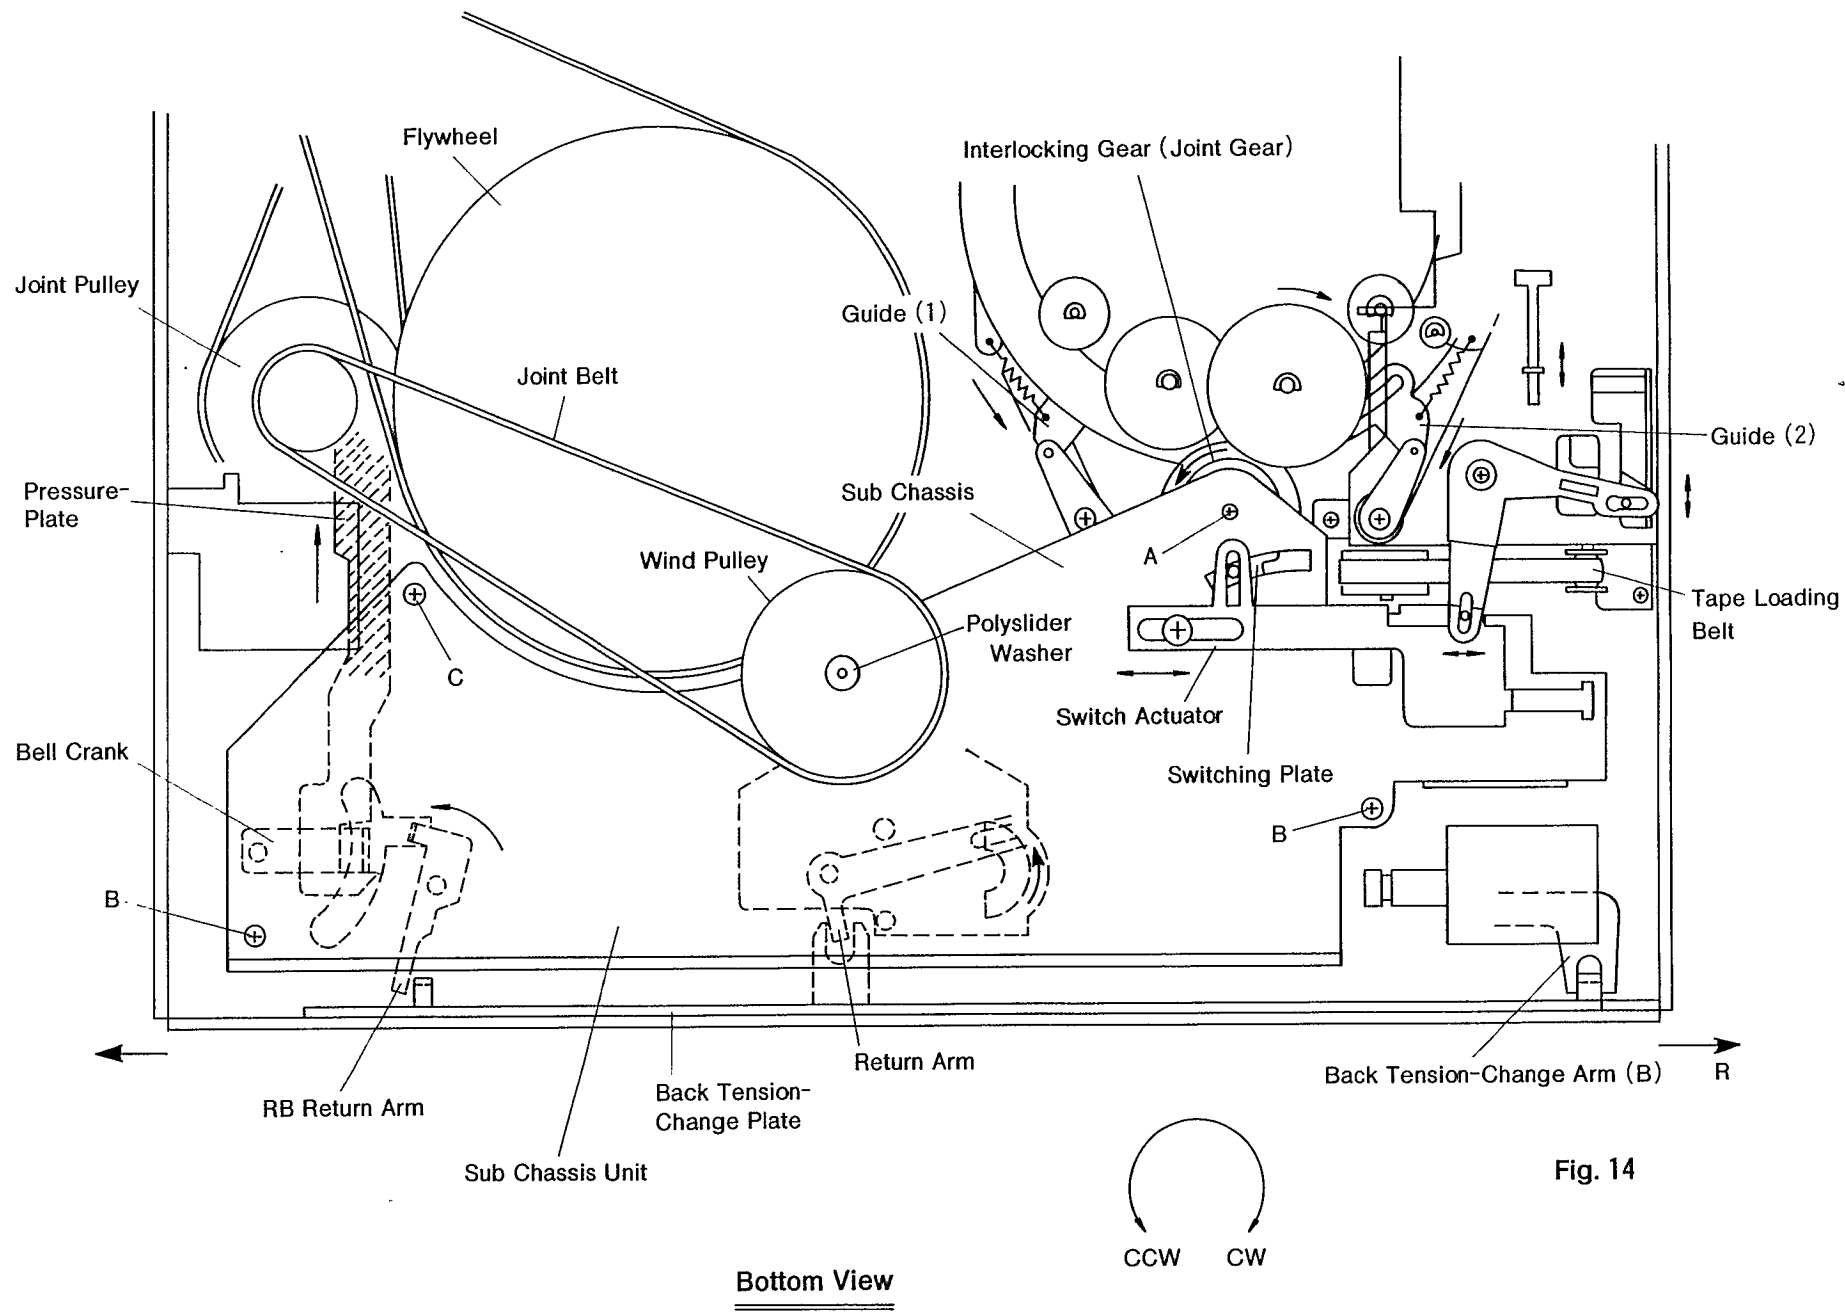

Fig. 14
3. Gearing position of Interlocking Gear and switching plate and Mounting position of Loading switch. (Fig. 14)
A. Take-out of Sub Chassis Unit (Fig. 14)